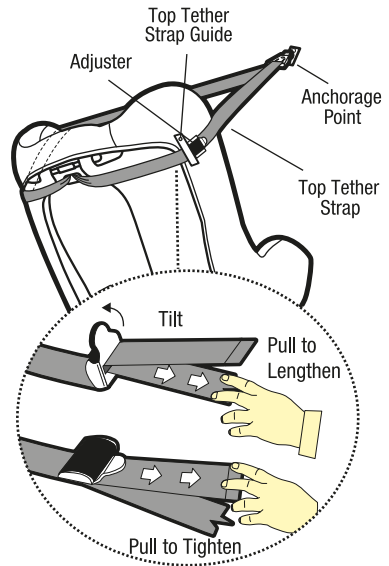

Figure 9
Step 7: Pull to tighten to remove all the slack, from the upper anchorage strap. Do not overtighten as this could cause the restraint to lift off the vehicle seat (refer to Figure 9).